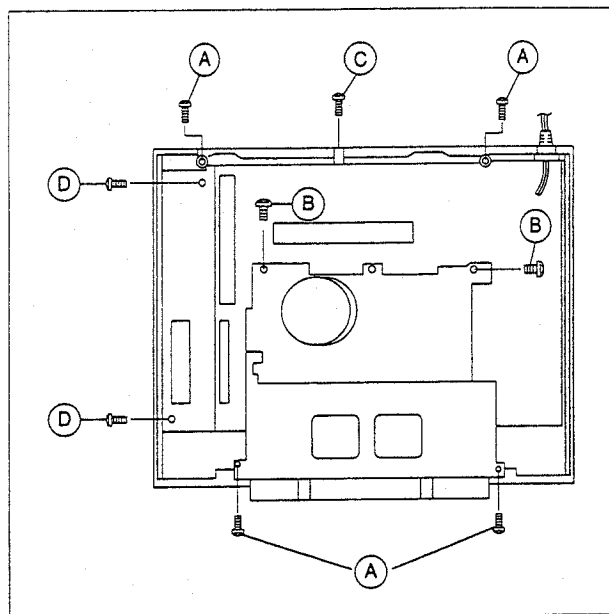

Fig. 1-5-1
- (1) Remove the Top cover, Front panel assy and CN1 and CN4 of the DISPLAY board assy.
- (2) Take out 4 screws (A), 2 screws (B), 1 screw (C) and 2 screws (D) as shown in Fig.1-5-1.